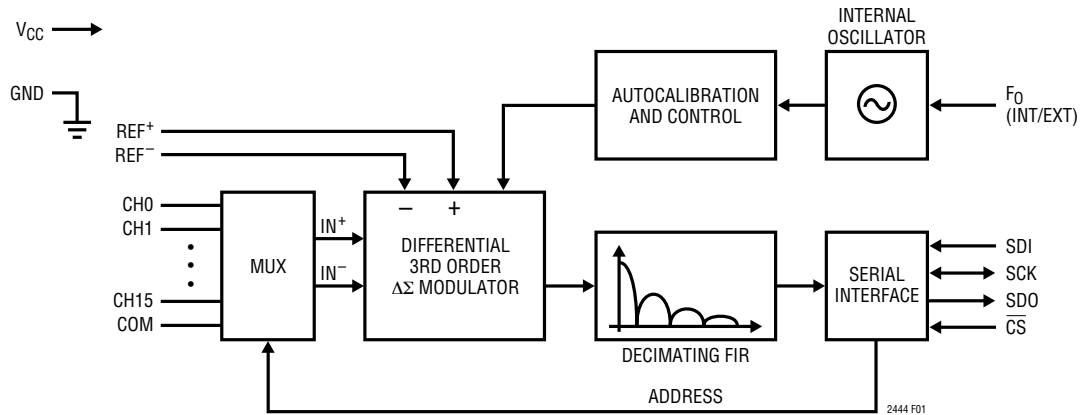
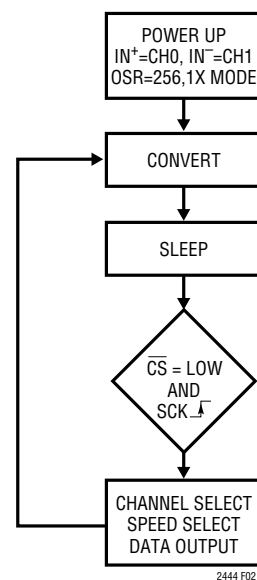

Figure 1. Functional Block Diagram
Figure 2. LTC2444/LTC2445/LTC2448/LTC2449
The LTC2444/LTC2445/LTC2448/LTC2449 are multi-channel, high speed, delta-sigma analog-to-digital converters with an easy to use 3- or 4-wire serial interface (see Figure 1). Their operation is made up of three states. The converter operating cycle begins with the conversion, followed by the low power sleep state and ends with the data output/input (see Figure 2). The 4-wire interface consists of serial data input (SDI), serial data output (SDO), serial clock (SCK) and chip select (CS). The interface, timing, operation cycle and data out format is compatible with Linear's entire family of $\Delta\Sigma$ converters.